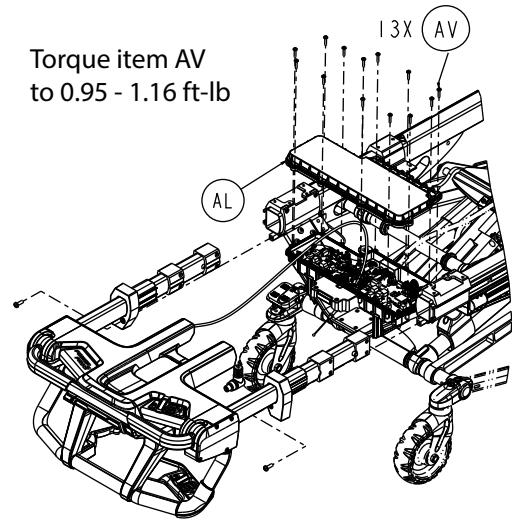

Figure 25 – Remove the FEIB cover screws
10. Using a T20 Torx driver, remove the thirteen round washer head tapping screws (AV) that secure the top FEIB enclosure (AL) to the bottom FEIB enclosure (Figure 25). Save the screws.